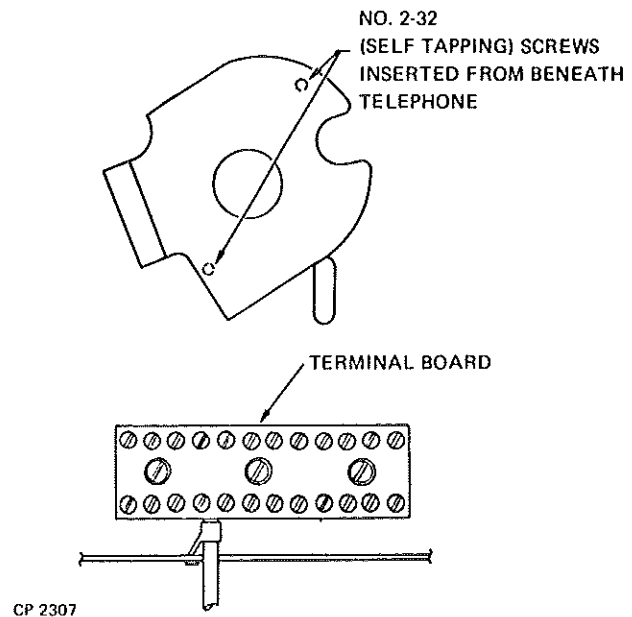

Figure 3. S-C No. 95 Tone Ringer, Mounting
3. Mount the tone ringer to the telephone base (fig. 3). Use the two No. 2-32 self-tapping screws provided with the ringer.